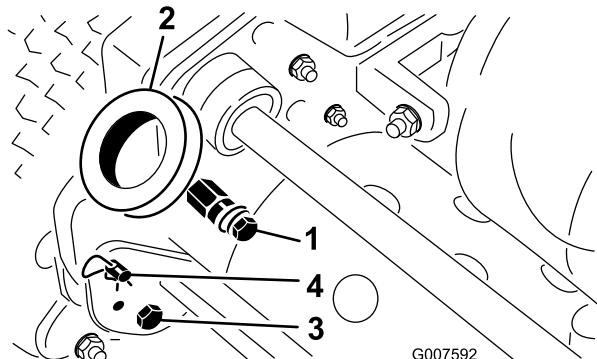

Figure 3
1. Remove the bolts and locknuts securing the bottom of the handle arms to each side of the mower (Figure 3).
2. Remove the hairpin cotters and ring pins securing the handle arms to the rear of the frame (Figure 3).
3. Insert the handle ends through the holes in the handle arms and align the holes with the mounting pins (Figure 3).
1. Remove the hairpin cotters from the ring pins on each side of the mower (Figure 3).
2. While supporting the handle, remove the ring pins from each side and raise or lower the handle to the desired operating position (Figure 3).